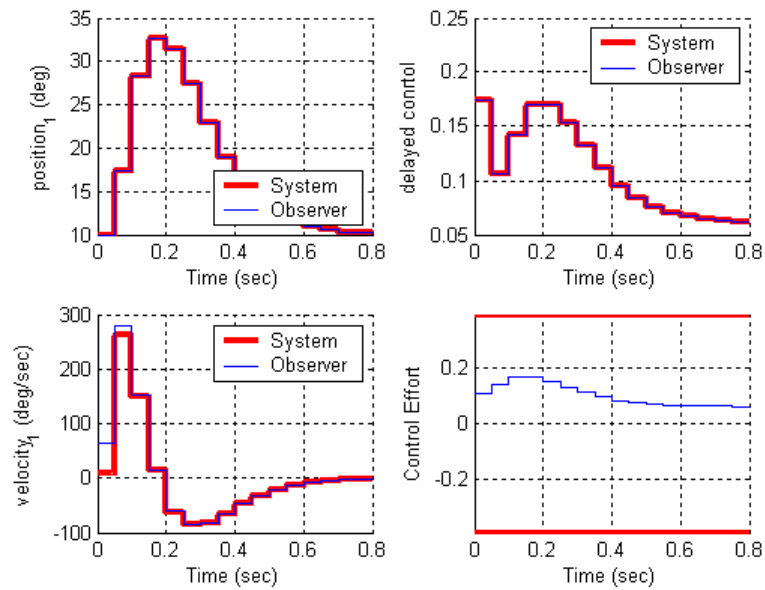

Figure 2. Results for problem 1c.
c) Now assume the same initial conditions as in part a, but both the position of the disk and the delayed input signal are known. The observer pole is placed at 0.3 and the sampling interval is still at 0.05. For a 10 degree step input you should get the graph shown in Figure 2. Turn in your plot.